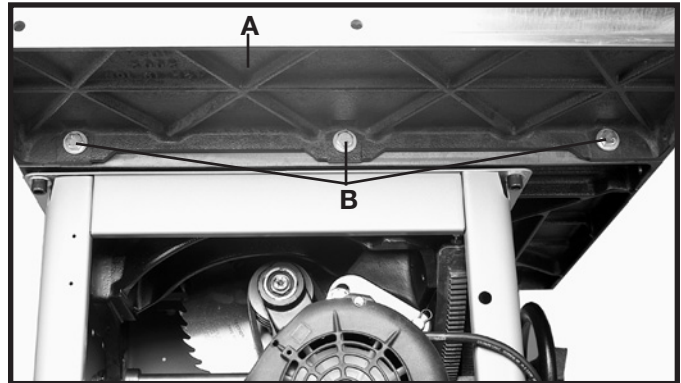
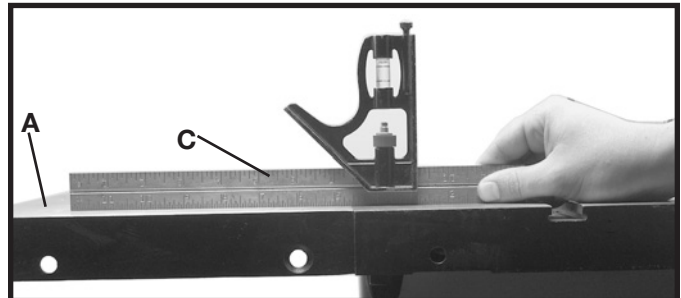

Fig. 5
Fig. 6
Assemble left extension wing (A) Fig. 5 to the saw table. Align the three holes in the extension wing with the three holes in the side of the saw table. Place a 7/16" flat washer on a 7/16-20x1-1/4" hex head screw. Insert the screw through the hole in the extension wing and thread the screw into the tapped hole in the side of the table. Repeat this process for the two remaining holes in the extension wing and saw table. **NOTE: TIGHTEN SCREWS ENOUGH TO HOLD WING IN PLACE, BUT LOOSE ENOUGH TO ALLOW THE WING TO BE ADJUSTED FLUSH WITH THE TABLE.**
With a straight edge (C) Fig. 6, make certain the extension wing (A) is level with the saw table. Then, tighten all three screws (B) Fig. 5 with an 18mm open end wrench.